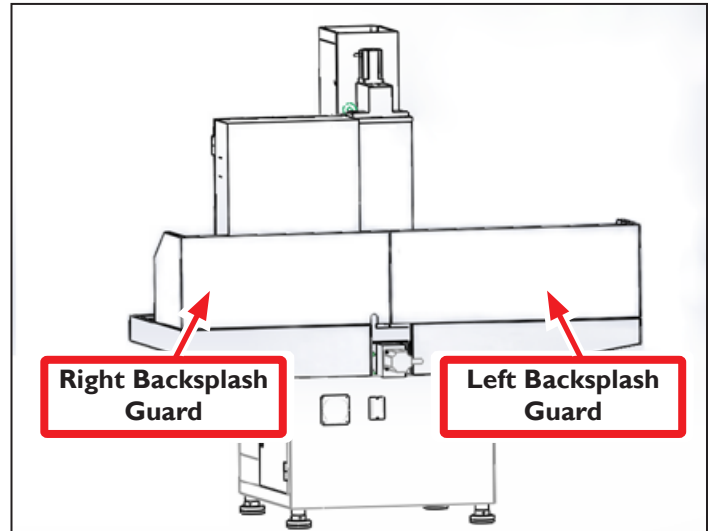

Figure 1
1. Position backsplash guards near Stand and test fit; Left Backsplash Guard and Right Backsplash Guard are different (see **Figure 1**).